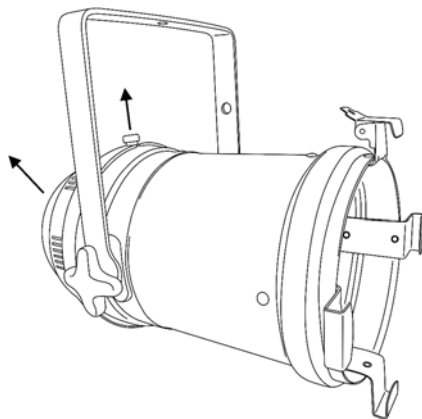

Fig. 03
- 02) Pull the fixation screw and remove the rear cover (fig. 03).